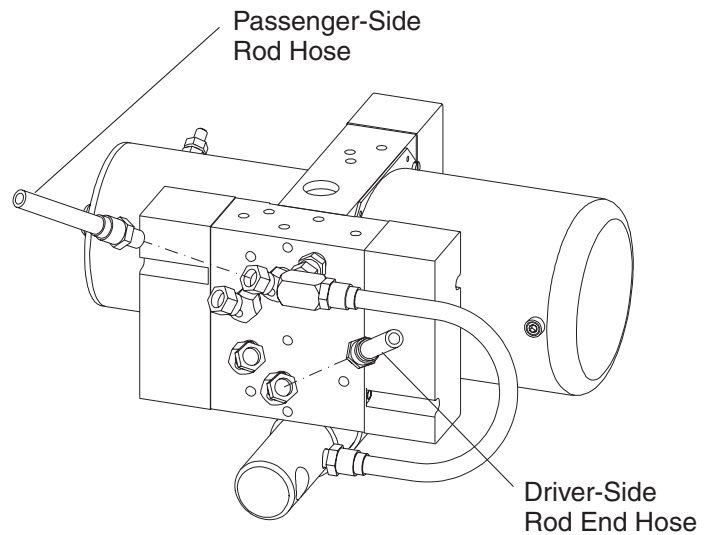

Figure 18
15. Attach the 38" hoses to the 45° swivel fittings on the hydraulic unit. (See Figure 18.)